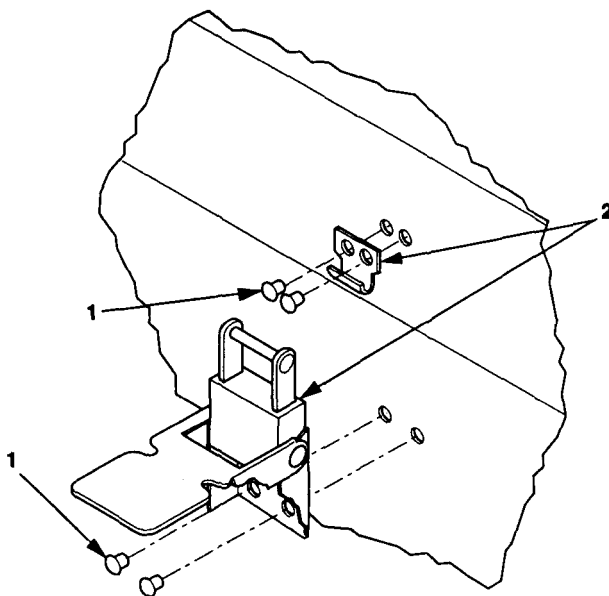

Figure 4-12. Clamping Catch Replacement.
1. Drill out rivets (1, figure 4-12) that secure clamping catch (2).